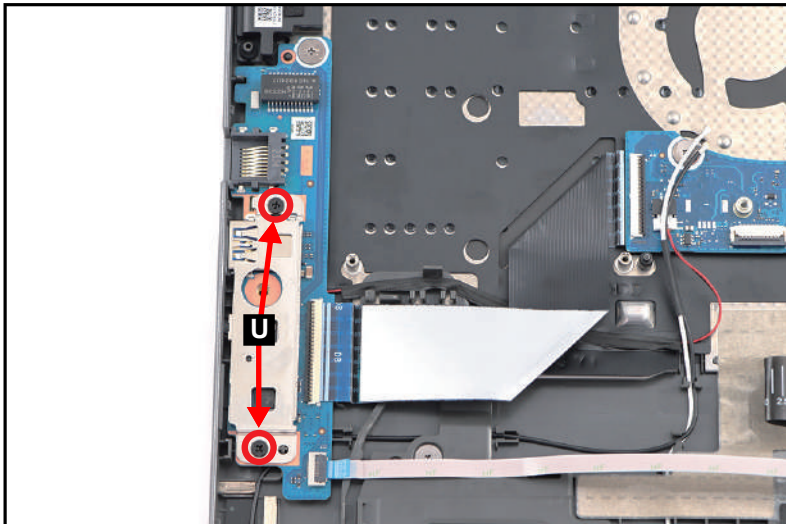

Figure 3-114. Replacing the Mainboard
18. Install two (2) screws (U) to secure the left IO bracket (Figure 3-114).